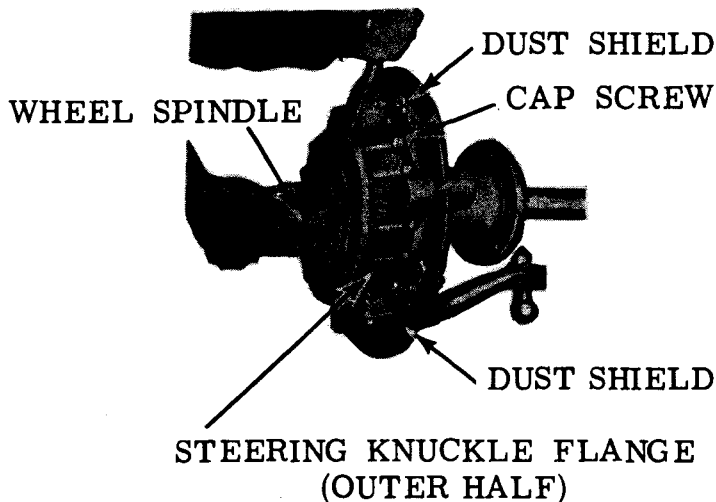

Figure 18. Removing wheel spindle.
- g. Remove the nuts (SS) and lock washers (TT) that attach the wheel spindle (KK) to the steering knuckle outer flange (HH). Tap the wheel spindle (fig. 18) lightly with a soft hammer; then carefully pry it off the axle shaft.